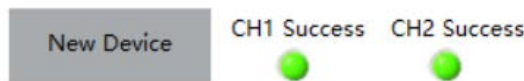

Figure 5.5.9 Restore factory settings
- Click the "Factory Reset" button to erase the original angle programming data inside the chip. (If the chip is being programmed for the first time, this step can be skipped to simplify the operation) After erasing is completed, the "Reset" indicator light will turn green(Figure 5.5.9)